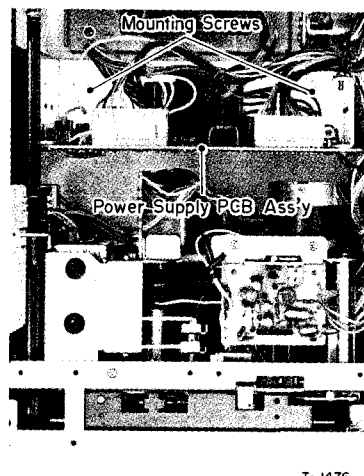

Fig. 5-14 Power supply PCB ass'y location
2. Remove the POWER SUPPLY PC board ass'y located behind the transport chassis, from the bottom of main chassis by unfastening two screws as shown in Fig. 5-14.